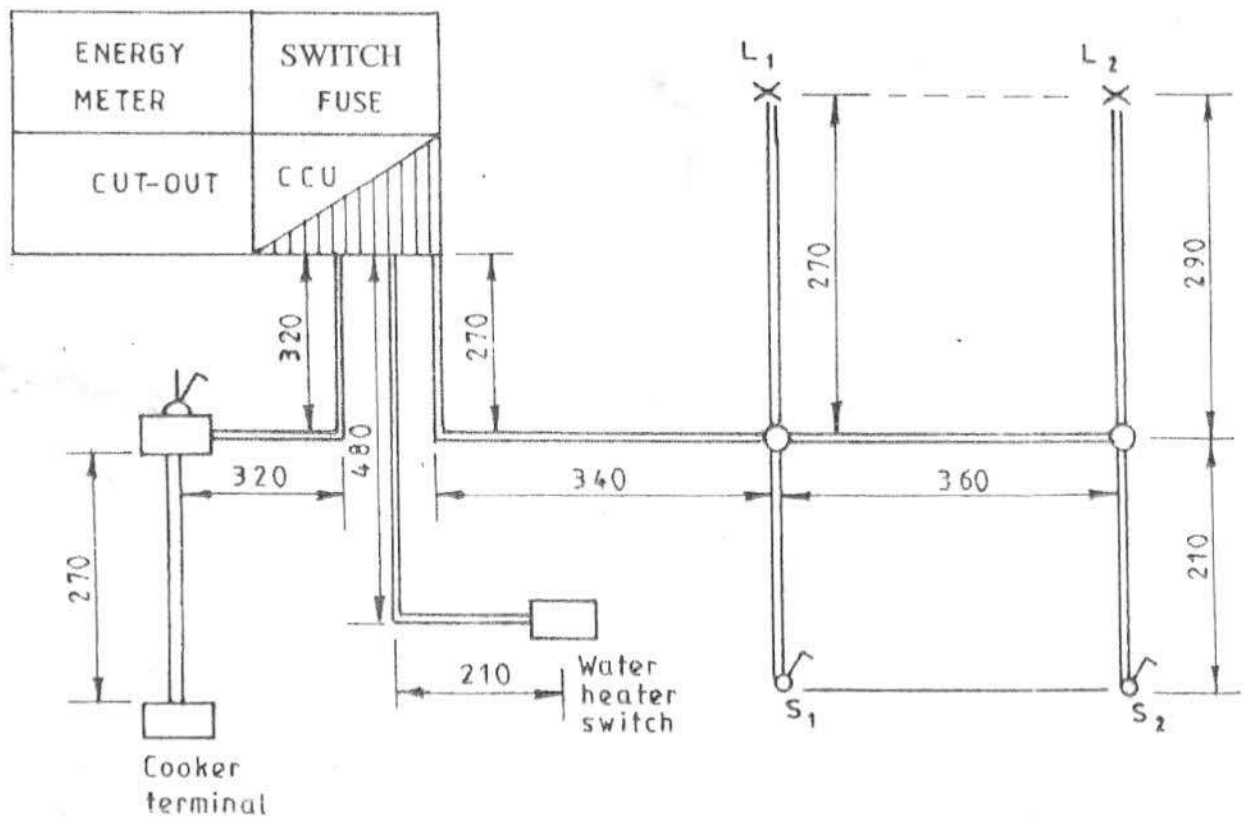

Fig. 2
2. Figure 2 shows the layout of control gear/equipment at consumers' intake point and two final circuits. The control gear and consumer units are pre-installed